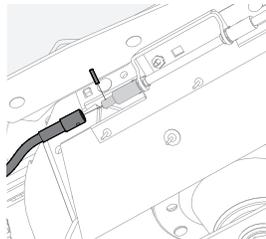

Figure 8
- To install flex shaft assembly (611-05206 48" or 611-05567 54"/60") connect end to location shown on side discharge block-off assembly (631-05959) and secure with roll pin (715-04137). See Figure 8.